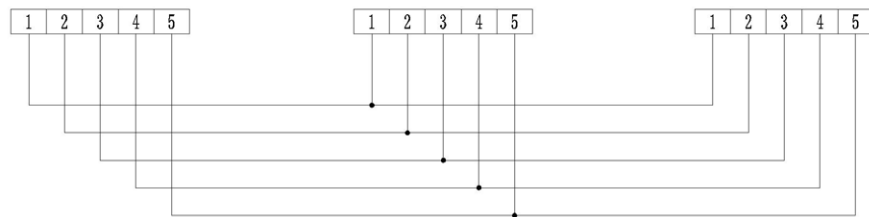

Figure 5.16 PCS Port Diagram
③ The lower terminals 1 and 2 of the double-wired terminal block at the rear of the energy storage cabinet are connected to the sixth and fifth last terminals of the grid-connected cabinet, respectively.
④ Terminals 3 and 4 on the lower level of the double terminal strip at the rear of the energy storage cabinet are connected to terminals 21 and 22 of the inverse power meter, respectively.
⑤ The lower terminals 5 and 6 of the double terminal block at the rear of the energy storage cabinet are connected to the penultimate and penultimate terminals of the grid-connected cabinet respectively.
⑥ The lower terminals 7 and 8 of the double-wired terminal strip at the rear of the energy storage cabinet are connected to the penultimate fourth and penultimate third terminals of the grid-connected cabinet, respectively.
⑦ Terminals 1 and 2 (lower level, double terminal strip, rear panel of ESS cabinet) should be connected to: terminals 21 (A+) and 22 (B-) of the inverse active power meter, or the RS-485 communication port (A+/B-) of the PV inverter.
⑧ The upper terminals 1 to 5 of the double terminal strip at the rear of the energy storage cabinet are the parallel connection terminals for the PCS units inside the energy storage cabinet. In projects requiring off-grid parallel operation, these terminals must be connected to each other in all storage cabinets, as shown in Figure 5.16.